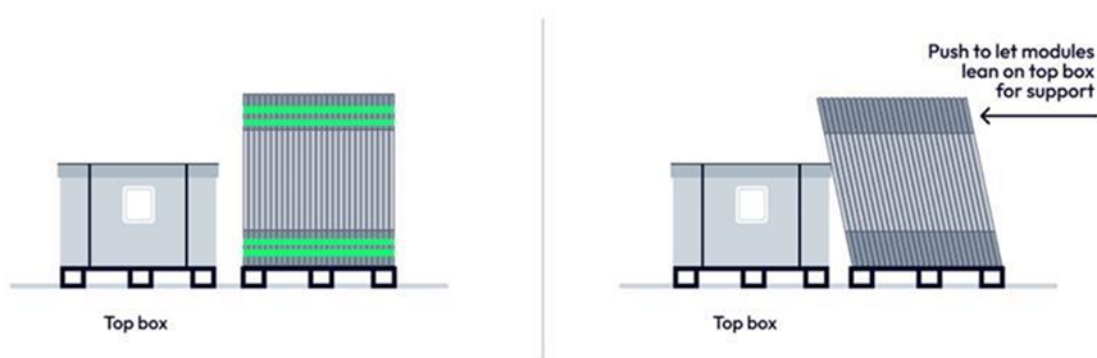

Figure 18: Leaning of top box for support.
- d) Gently push the PV modules so that they can safely lean against the top box placed for support during step 5 (Figure 18).